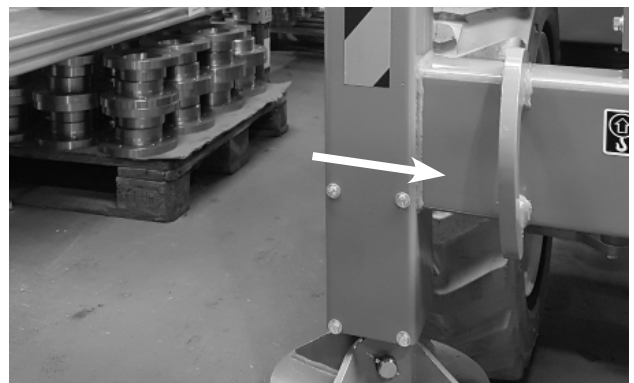

Figure 9.2 – Front Tie-Down/Lifting Lugs
4. Attach the winch to the tie-down lugs (refer to Figure 9.2) on the front of the chassis by looping the chain or cable through the hole in the chassis and back out in between the chassis and the front axle.